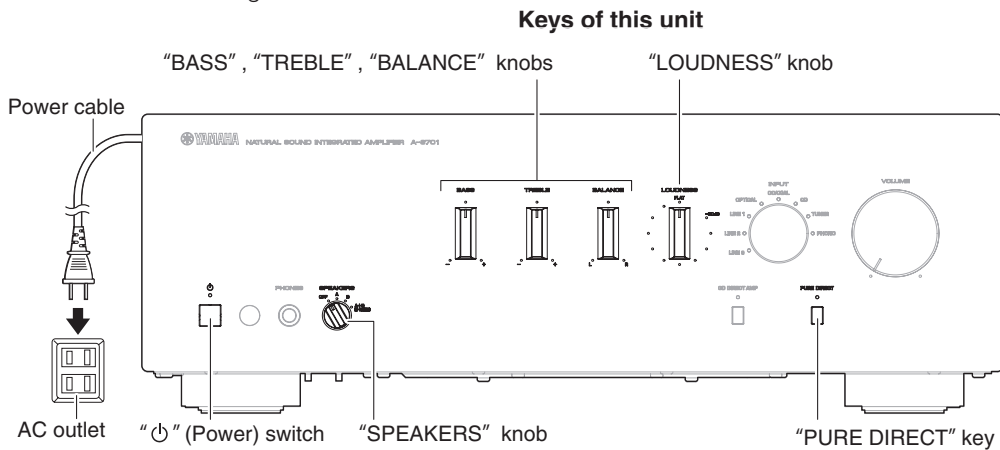

Fig. 19
1. Press the "⏻" (power) switch to turn off this unit. (Fig. 19)
2. Connect the power cable of this unit to the AC outlet. (Fig. 19)
3. Set the "SPEAKERS" knob to the "OFF" position. (Fig. 19)
4. Set the "BASS", "TREBLE" and "BALANCE" knobs to the top positions. (Fig. 19)
5. Set the "LOUDNESS" knob to the "FLAT" position. (Fig. 19)
6. Press the "⏻" (power) key to turn on this unit. (Fig. 19)
8. Repeat pressing the "PURE DIRECT" key 12 times within 15 seconds. (Fig. 19)